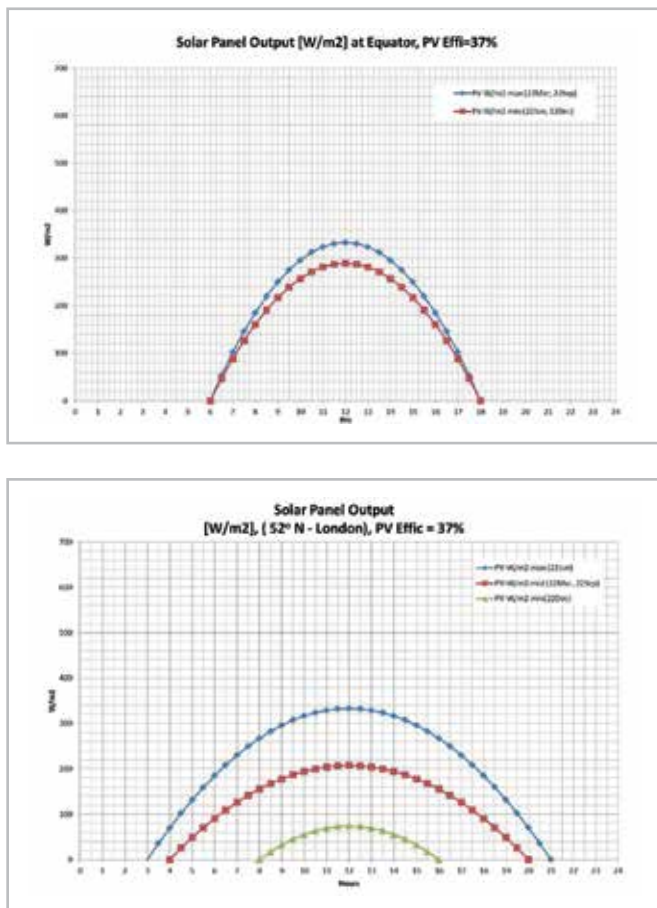

Figure 1 Solar power seasonal fluctuations
The recent progress in Fuel Cell (FC) technologies have led to rapid developments in ground vehicle transportation. This paper presents the results of a study concerning the feasibility of a reversible fuel cell power supply system for solar panel powered lift operating in a high-rise building. It is assumed that all energy needed to power the elevator system will originate from the solar panels. Two geographic locations are considered: the best possible solar irradiation in Kampala (Equator) and mid-Europe 52° N parallel (London). The solar irradiation [W/m²] curves have been derived from available data [2] and are shown in Fig. 1.
For locations near the 52oN parallel the situation is dramatically different. By comparing the graphs in Fig. 1 it becomes clear that the PV panel surface would need to be very large in order to cover the daily lift power requirement on the minimum Sun energy day (22 Dec) –green line, bottom graph. In this case a seasonal energy fluctuations compensation device will likely be required, while the PV panels would be sized to match the annual energy requirement need.